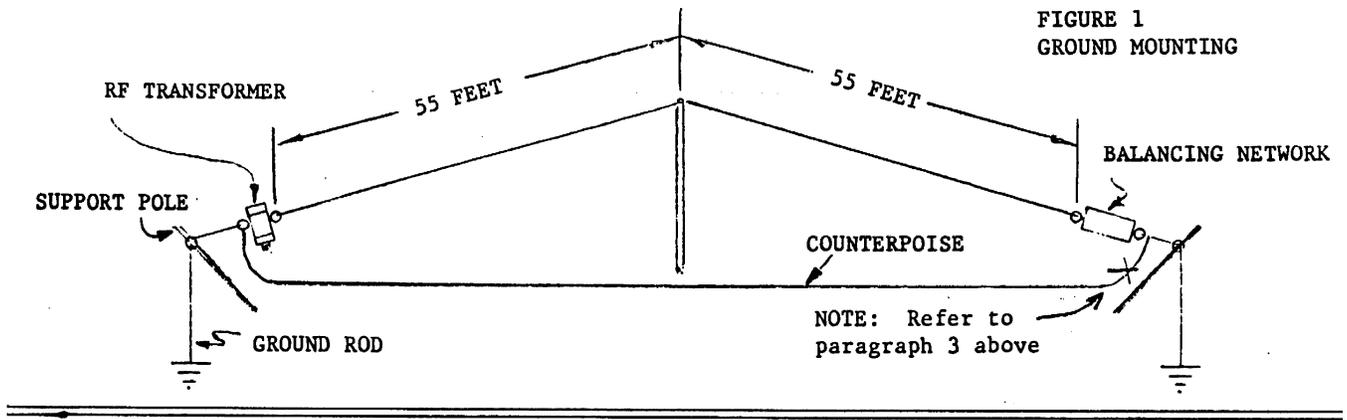

FIGURE 1
(2) When unpacking and installing the antenna, avoid twisting or kinking the wire.
(3) The antenna ends may be attached various ways (refer to figures 1 - 3). When mounting off the ground, Good ground rods are recommended at each end. The counterpoise wire should connect to the ground side of the balun and balancing network. The antenna may work best with the counterpoise *not* connected to the ground side of the balancing network. Try both to determine best results for your installation. The counterpoise is essential in poor ground, dry soil, or above ground installations. Its length is not critical, and it *does not* have to run directly under the antenna wire.